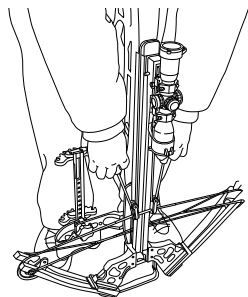
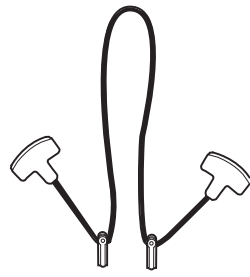

Figure 14
Figure 15
- ③.4 Pull both T-handles simultaneously (See Figure 14), smoothly drawing the crossbow string back under the crossbolt retention spring and into the string opening in the trigger mechanism (tension will keep cocking hooks against barrel if done properly). Continue drawing fully to the rear until the trigger safety moves to the “Safe” position. Relax the tension slightly to ensure the trigger latch has fully captured the crossbow string. The crossbow is now fully cocked, ready for loading. Remove the rope cocker before shooting (See Figure 15).